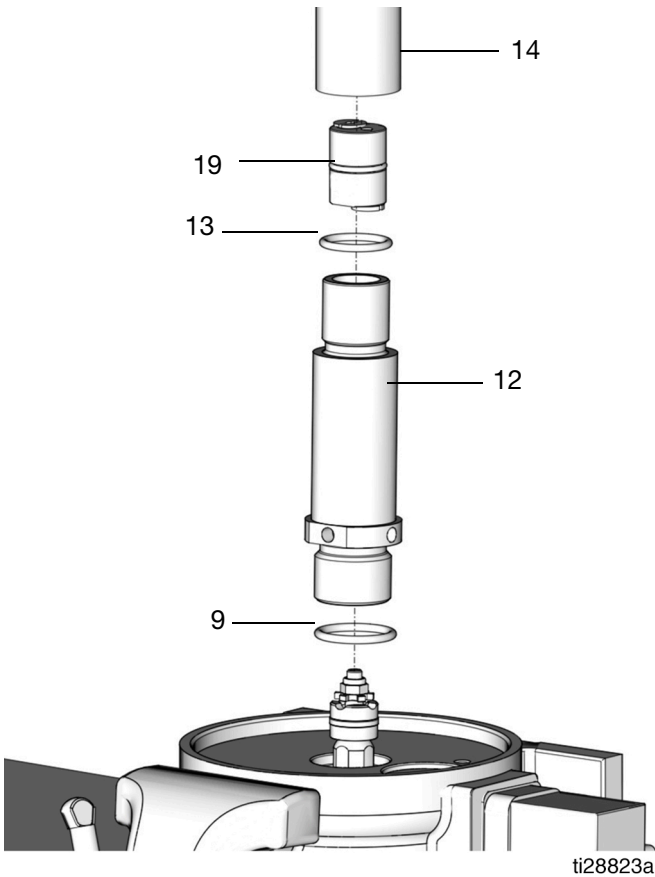

FIG. 37
16. Apply a thin layer of grease to the outlet tube o-ring (13) and the pump cylinder o-ring (9) and install the o-rings on the outlet tube (14) and the pump cylinder (12) (FIG. 37).